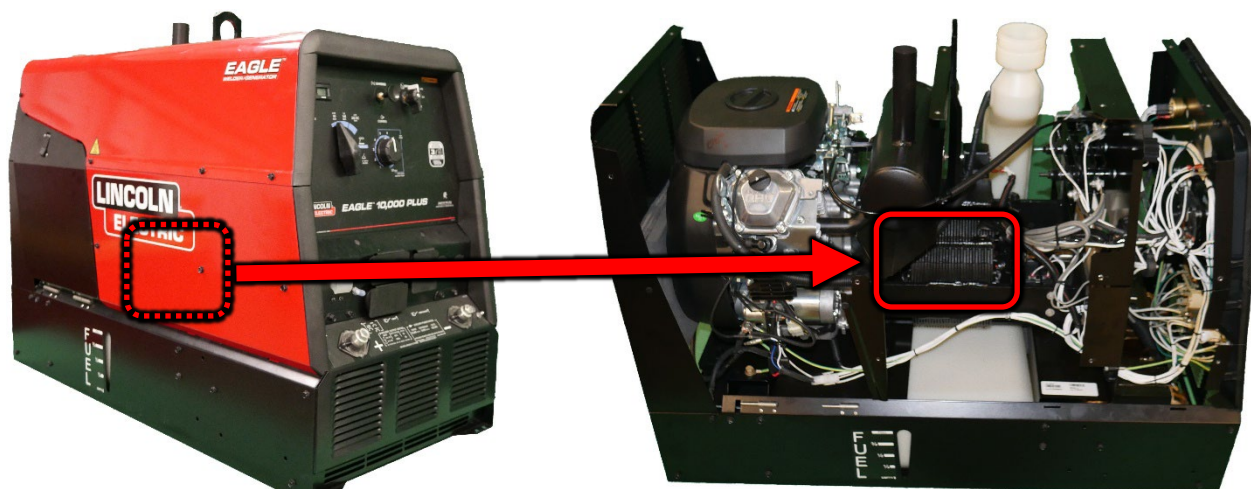

Figure F.1
1. For location of the Stator refer to Figure F.1.